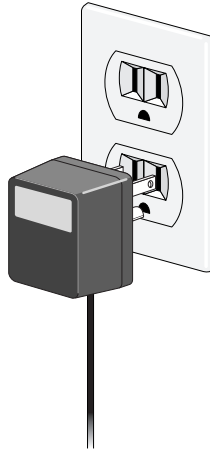

Figure 23. Plugging an AC/DC Adapter to a Power Outlet
3. Plug the AC/DC adapter to a power outlet, as shown in Figure 23. Refer to “Technical Specifications” on page 53 for power requirements.